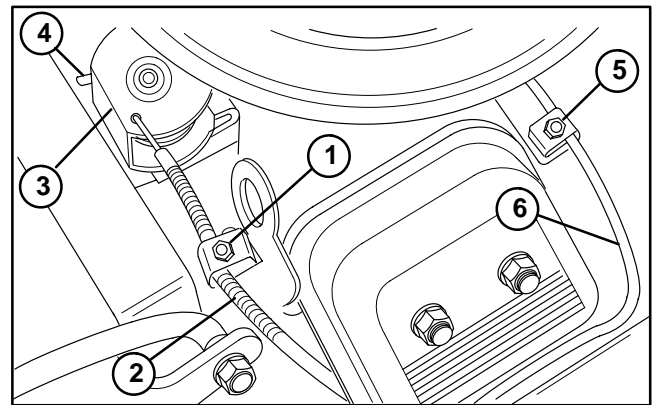

Figure 4
3. Loosen cable clamp screw securing the choke cable to engine (Fig. 4).
5. Pull firmly on the choke cable until the choke butterfly is completely closed. Make sure choke control knob is still pulled out completely or the choke lever is shifted to choke, then tighten cable clamp screw (Fig. 4).